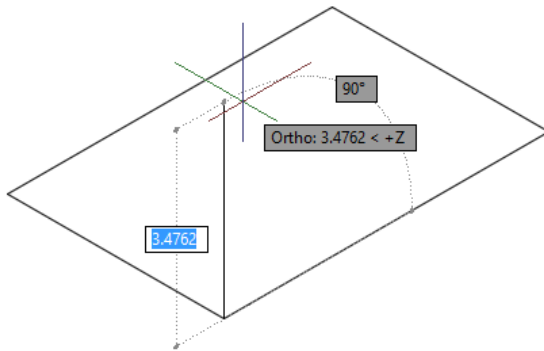

Figure 2-39 Tooltip displayed on moving the cursor along the positive Z axis
6. From the start point of the model, move the cursor along the positive Z axis. You will notice that the tooltip displays **Ortho: (current length) < +Z**, as shown in Figure 2-39.